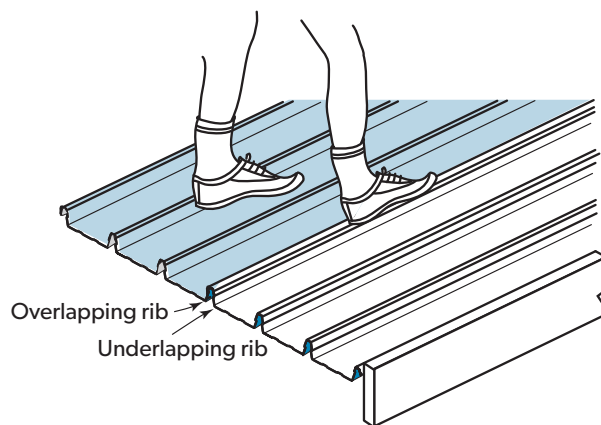

Figure 9.1.13 Engaging the lapping ribs
12. Fully engage the two sheets along the overlapping rib. You can do this by walking along the full length of the sheet with one foot in the centre pan of the previous sheet and the other foot applying vertical pressure to the top of the interlocking ribs at regular intervals. It is recommended that you don't walk in the unsupported pan beside the underlapping rib. (Figure 9.1.13)